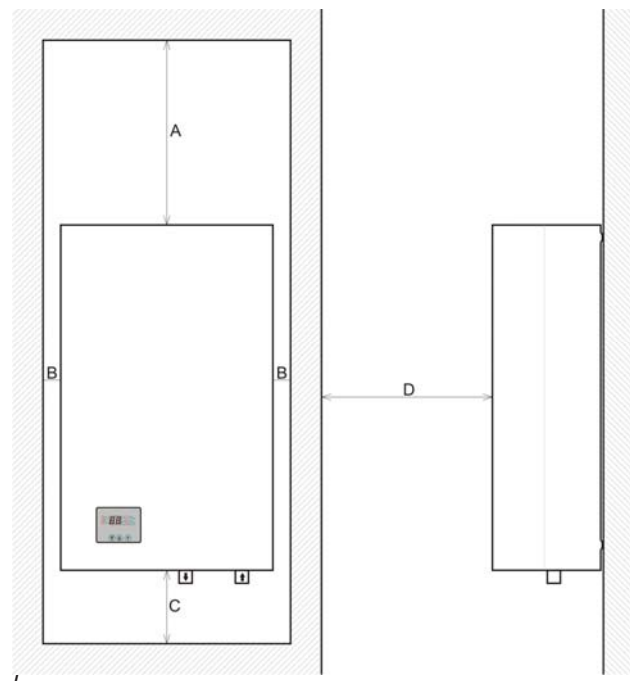

Figure3: Minimum distance during installation
- Place boiler on the wall in such manner to leave free space as illustrated in the Figure 3.
- ④ Draw position of drilling holes for mounting set respecting minimum distances (Figure 3).